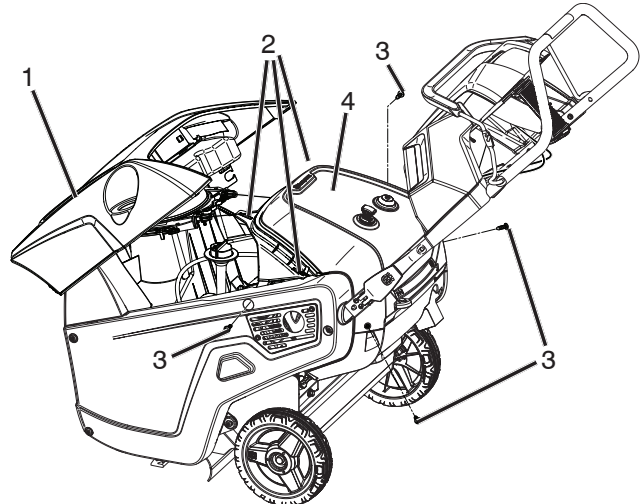

Figure 29
8. Unsnap top cover by firmly pulling upwards at the rear section of the cover disengaging the three clips (Figure 29).
25. Set top cover in place and snap three top cover clips into the rear upper cover (Figure 29).